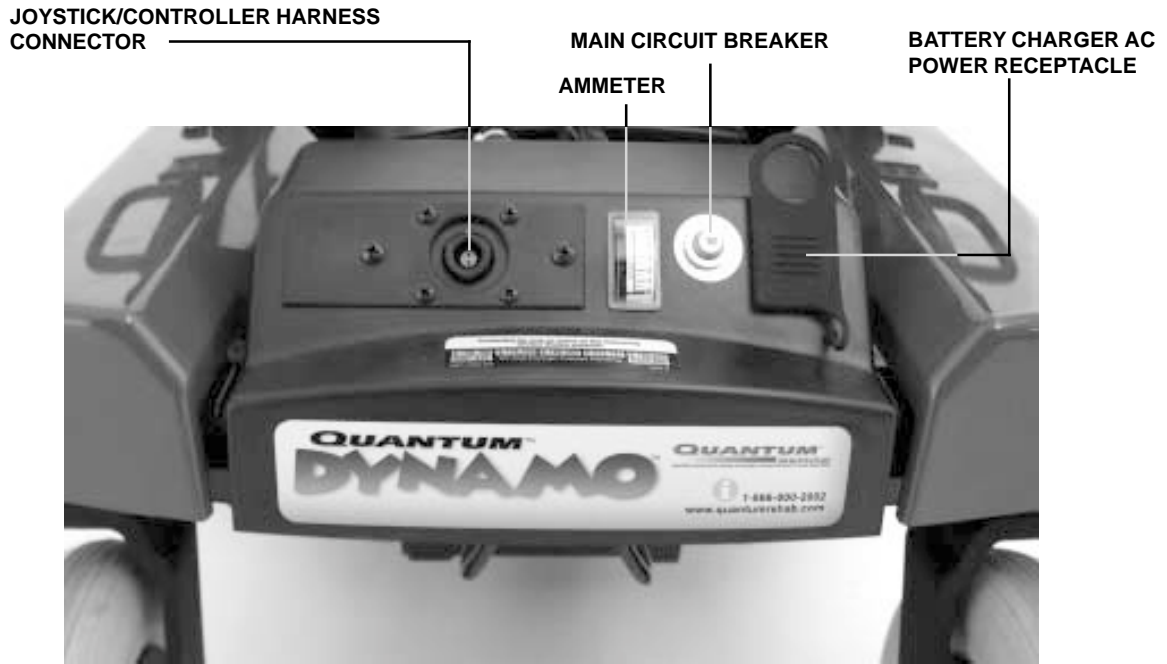

Figure 3. Power Base Rear View - Electronics Tray
- **Joystick/Controller Harness Connector:** This is where the joystick harness connects to the electronics tray. See figure 3.
- **Ammeter:** The ammeter displays the charger’s current output in amps. See figure 3.
- **Main Circuit Breaker:** The main circuit breaker is a safety feature built into your power chair. See figure 3. When the batteries and the motors are heavily strained (e.g., from excessive loads), the main circuit breaker trips to prevent damage to the motors and the electronics. If the circuit trips, allow the power chair to “rest” for approximately one minute. Then, push in the circuit breaker button, turn on the joystick/controller, and continue normal operation. If the main circuit breaker continues to trip repeatedly, contact your authorized Pride provider.
- **Battery Charger AC Receptacle:** This is where the battery charger cord plugs in when the batteries need to be recharged. See figure 3.
1. Disconnect the joystick/controller harness from its connector on the electronics tray. See figure 3.